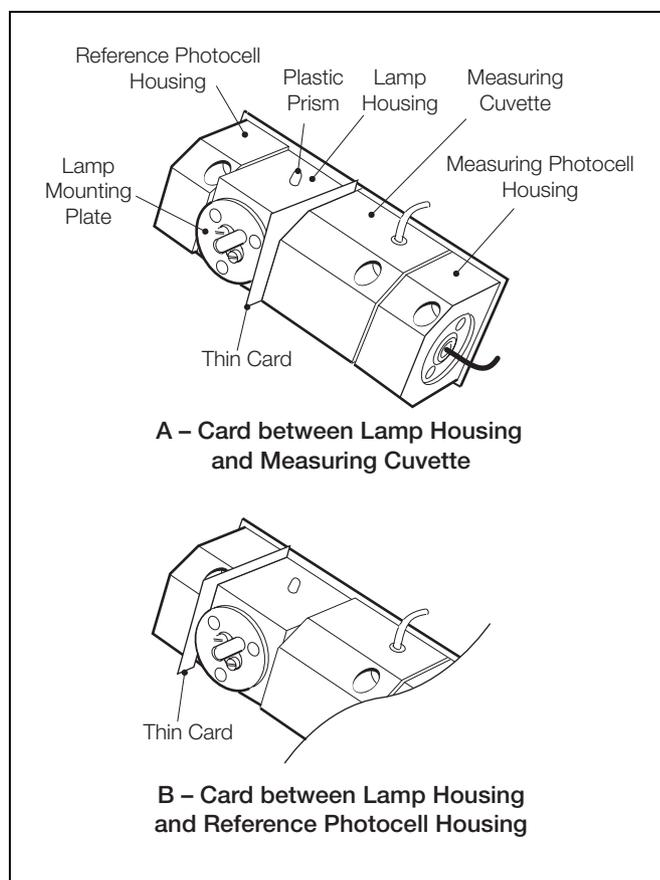

Fig. 8.3 Simple Electronic Response Test
4. Ensure that the drain/fill cycle is taking place normally. Illumination can be seen via the plastic prism on the top of the lamp housing – see Fig. 8.3.